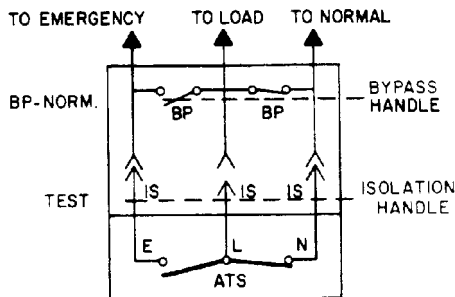

Figure 3-9. Test position.
2. Turn **Isolation Handle** counterclockwise to the *TEST* position. (see Figure 3-9):